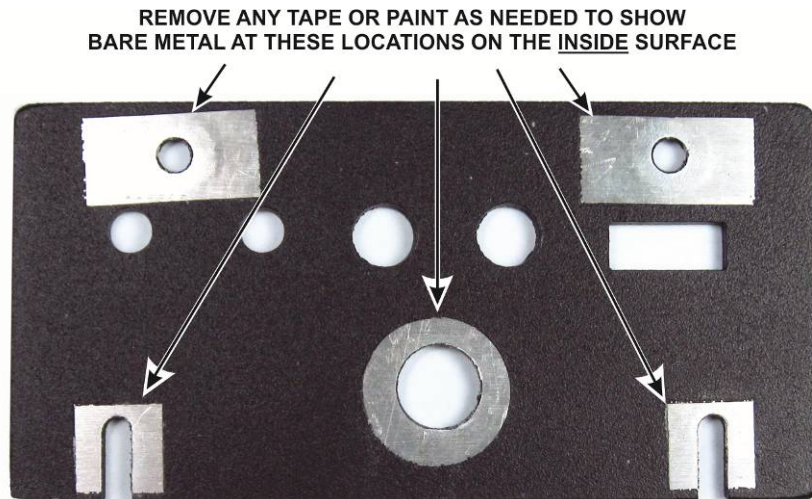

Figure 35. Preparing the Inside Surface of the Left Side Panel for Mounting.
- Unwrap the left side panel and clean the inside surface as needed in the five locations shown in Figure 35